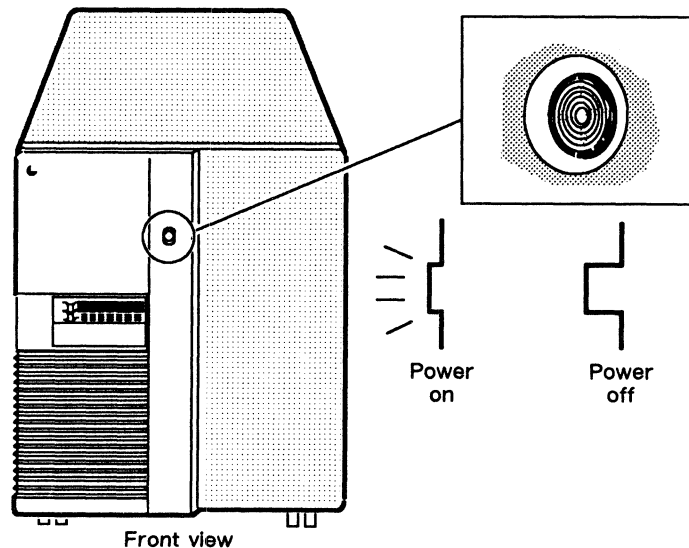

Figure 4-2 Turning on Computer Power
2. Turn on the computer unit by pressing the power button on the front panel as shown in Figure 4-2. Make sure the power button on the computer lights up and stays pushed in.